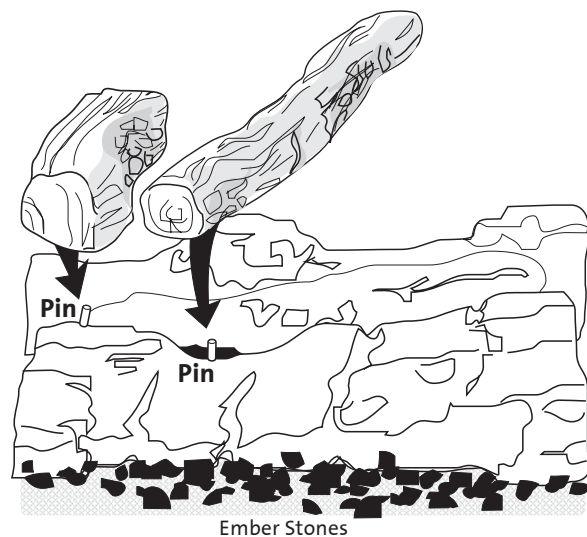

Figure 21. Positioning the top logs and ember stones.
- 4. Install the Cross-over Log and Left Log** as shown in Fig. 21. Engage the pins in the Front Log with the corresponding holes in the bottoms of the upper logs and position the other ends in the notches on the Rear Log.
The package of Ember stones, located in the hardware bag, will simulate glowing coals when the burner is operating. For best results, spread the stones evenly across the burner tube screen. "Pea" size embers create the best appearance, while too large a "chunk" can create long stringy yellow flames. All of the embers do not have to be used. See Fig. 21.